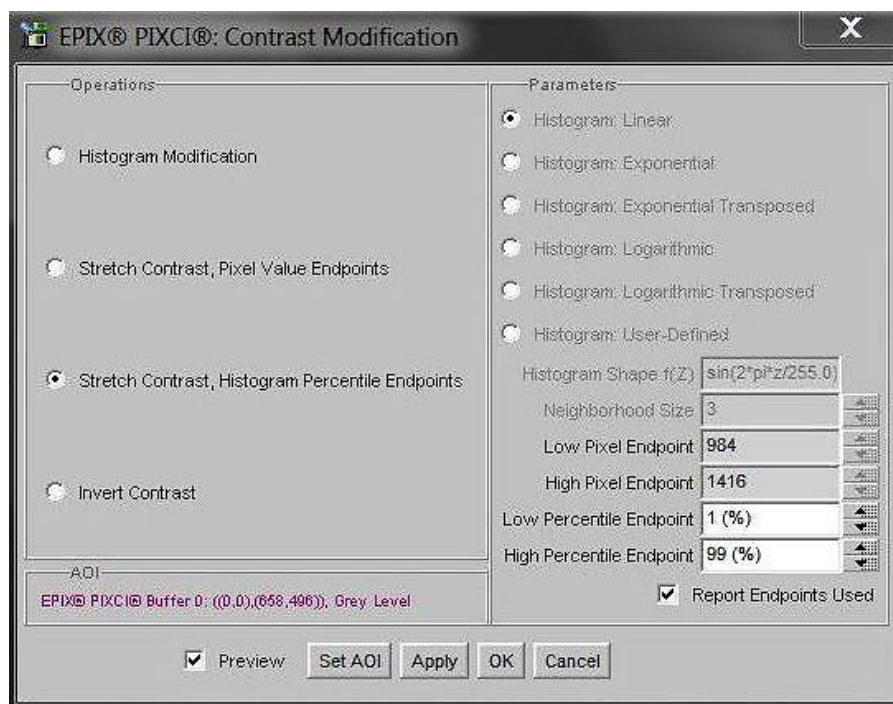

Figure 20: Stretch Contrast
2. Select "Stretch Contrast, Histogram Percentile Endpoints" and "Preview" Figure 20: Stretch Contrast.